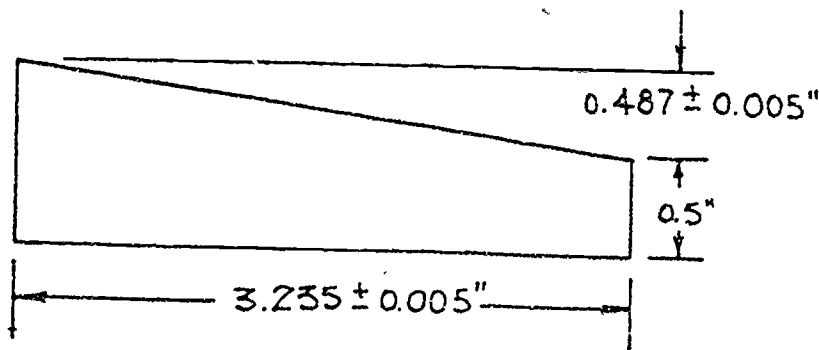

Figure 1: Taper gage.
4. The decimal dimensions of a machinists taper gage are given in Figure 1 below. Your boss asks you to lay it out using 64ths of an inch. Can you use 64th of an inch and still be within tolerance?